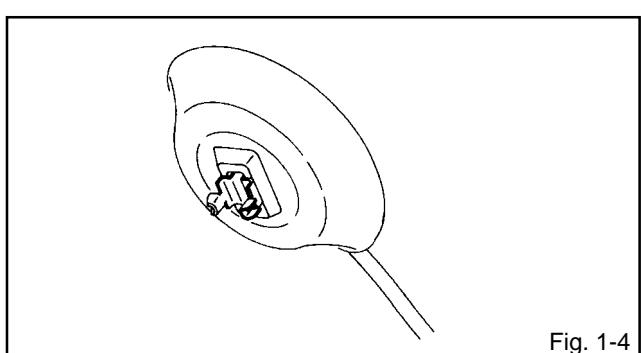

Fig. 1-4
3. Turn over the Rubber Cap. (**Refer to Fig. 1-4.**)